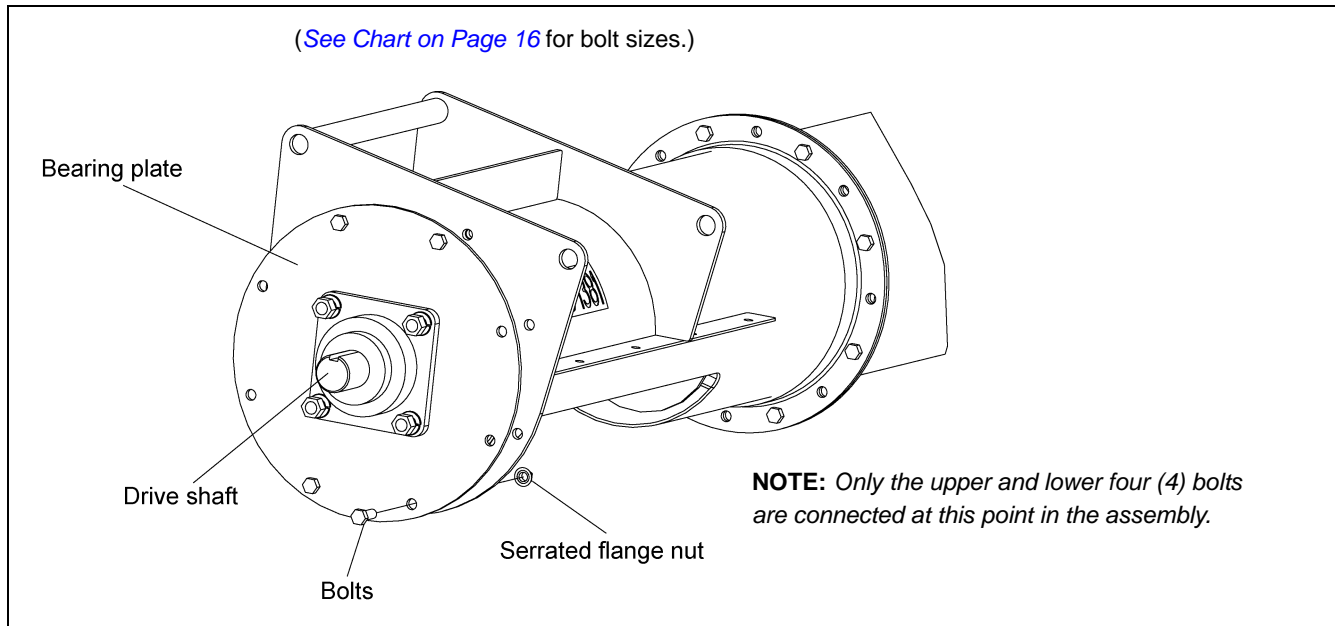

Figure 4I
- C. Only secure with UPPER and LOWER four (4) bolts. (See Figure 4I on Page 17.) The other four (4) bolts will be installed later with the belt guard mounting brackets.